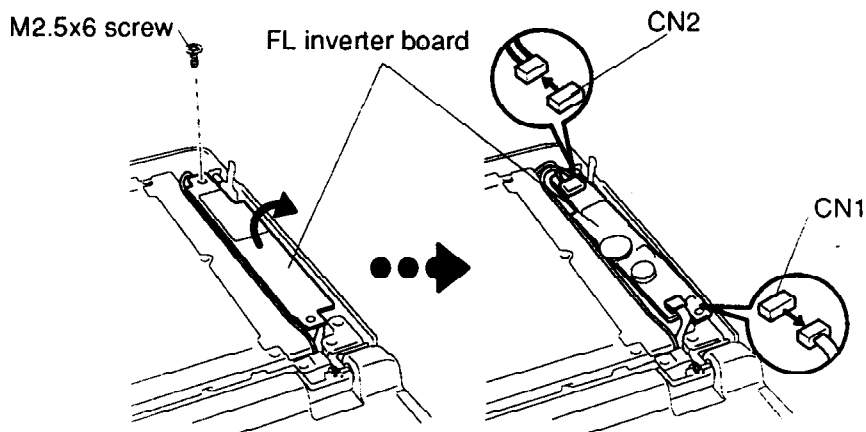

Figure 4-33 Removing the FL Inverter Board
4. Remove the **M2.5x6 screw** securing the **FL inverter board** (Figure 4-33).
5. Turn the FL inverter board over and disconnect the **FL cables** and **FL inverter cable** from **CN1** and **CN2** (Figure 4-33).
1. Connect the **FL inverter cable** and **FL cables** to **CN1** and **CN2** on the FL inverter board (Figure 4-33).
3. Secure the **FL inverter board** with one **M2.5x6 screw** (Figure 4-33).